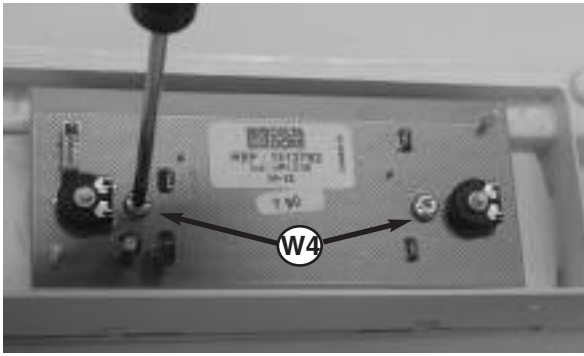

Fig. 107
6. To remove the display PCB, remove the two screw **W3** and lift the PCB out (see Fig. 107);